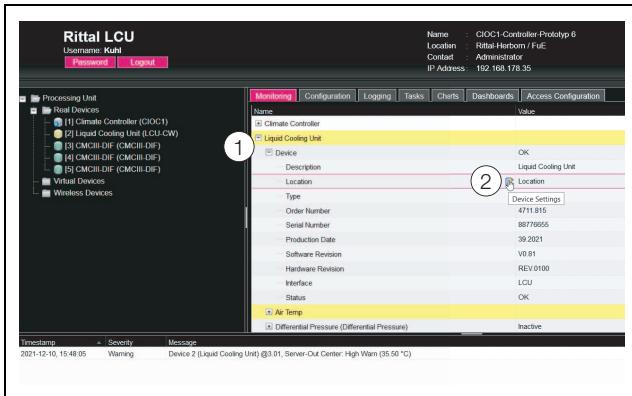

Fig. 35: Selecting an individual parameter
- One after the other, open the "Liquid Cooling Unit" and "Device" entries by clicking on the "plus" symbol in front of the entry (fig. 35, item 1).
- Position the mouse pointer at the end of the first column in the "Location" line (fig. 35, item 2). An "Edit" symbol will appear, and the mouse pointer will change to a "Hand" symbol.